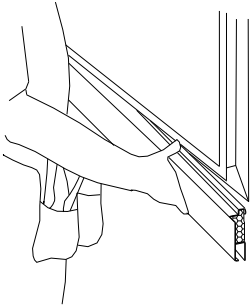

Figure 2
3. Insert the lineal into the bottom integral J of the window, center and temporarily tack into place. (Figure 2)